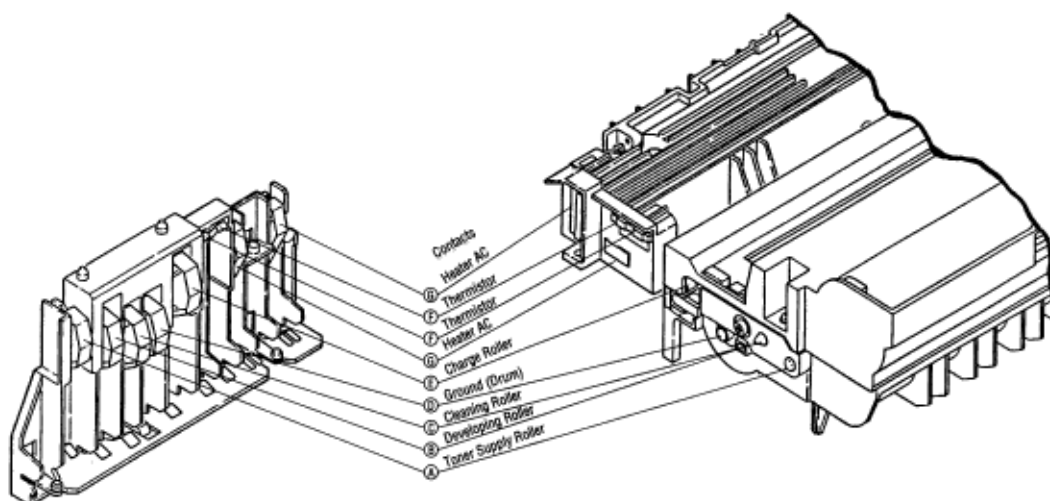

Figure 6-4
▼ Yes Is the contact of the image drum cartridge in proper contact with the ground contact (see Fig. 6-4 (D) )?
• No Are the contacts of the toner supply roller, developing roller, image drum and charging roller in proper contact with the contact assy (see Fig. 6-4 (A), (B), (C), (D), (E))?
- ↓ Yes      Is the contact of the fusing unit assy in proper contact with the contact assy (see Fig. 6-4 (G) )?